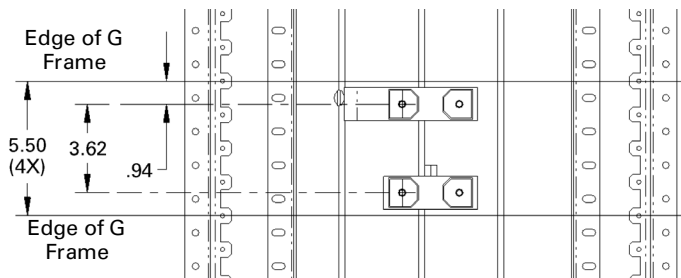

Figure 11. Installing straps on phases A and B.
**5b. Install straps on phases A and B.** Place the G frame straps [5, 6] over the carriage bolts and antiturn clips, as shown in Figures 11 and 12. Place conical washers [7] on the bolts and secure with nuts [11]. Leave the connections finger tight.